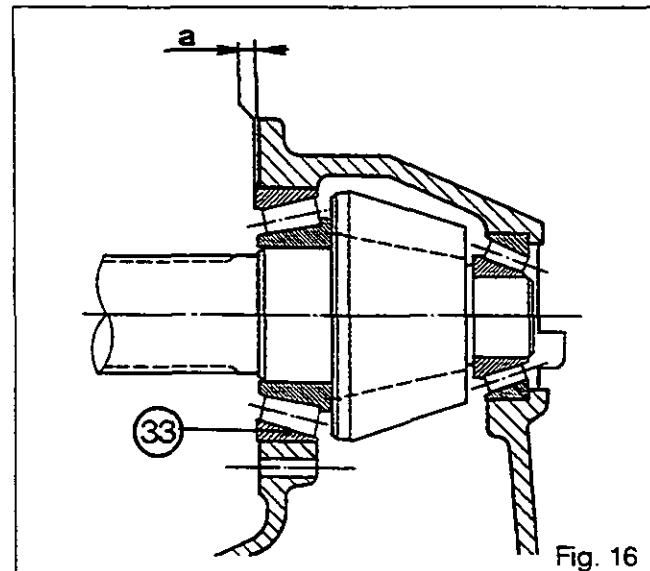

Fig. 16
78. To determine correct shim thickness, add shims to a greater thickness than "a", i.e. protrusion of cup (33) from housing face (Fig. 16) in order to provide some end float of 0,10 to 0,15 maxi..